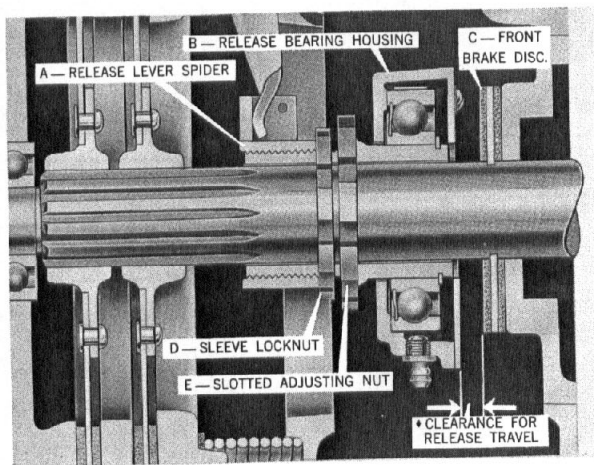

Fig. 34 - Sectional view of Release Bearing Assembly.
(3) Lock sleeve locknut "D".
**NOTE:** Keep light tension on Release Yoke (to remove play in linkage) while turning slotted spanner adjusting nut "E". See Fig. 34.